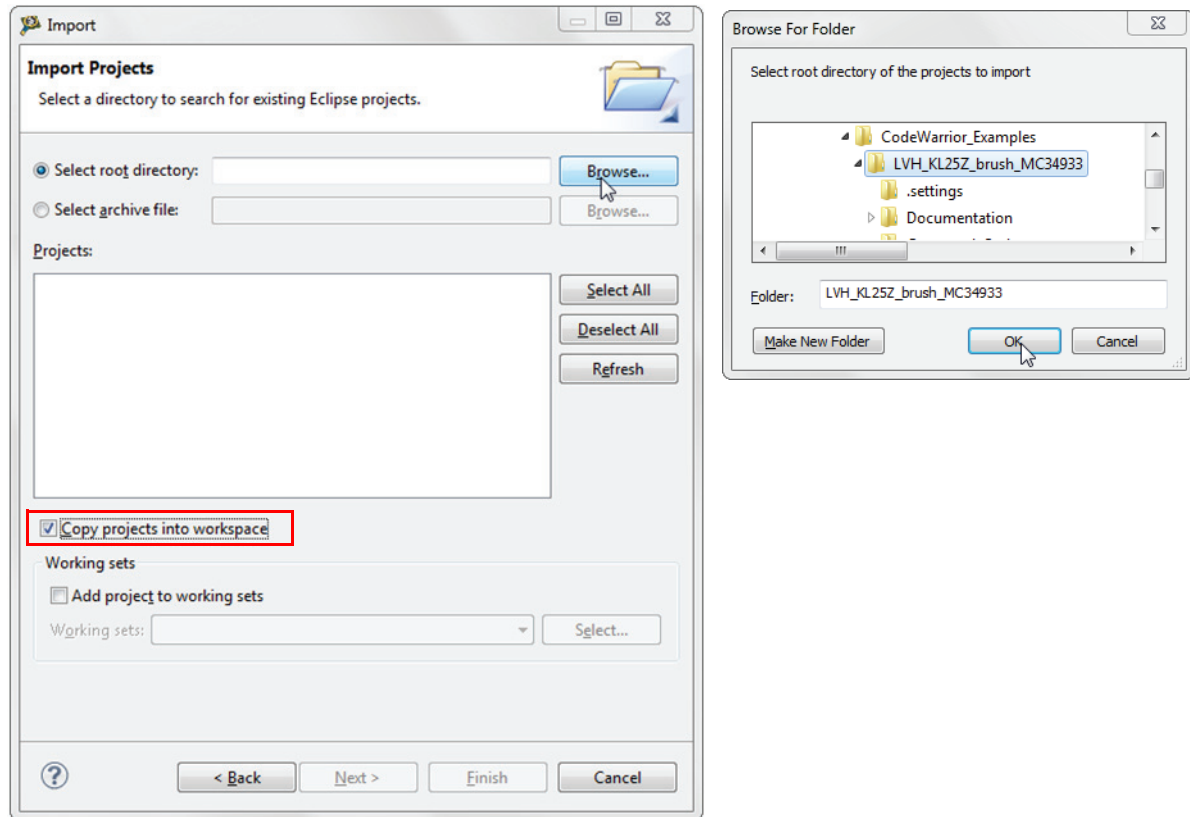

Figure 9. Example Project Import
2. Locate the example in folder: LVHBridge_PEx_SW\CodeWarrior_Examples (see Figure 9, which shows LVH_KL25Z_brush_MC34933 as the imported project). Then click **Finish**.